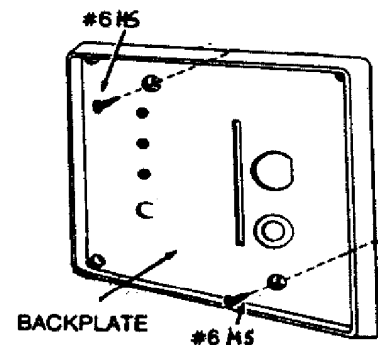

FIGURE 4
4. Secure in place with #6 screws and nuts. (Figure 4.)